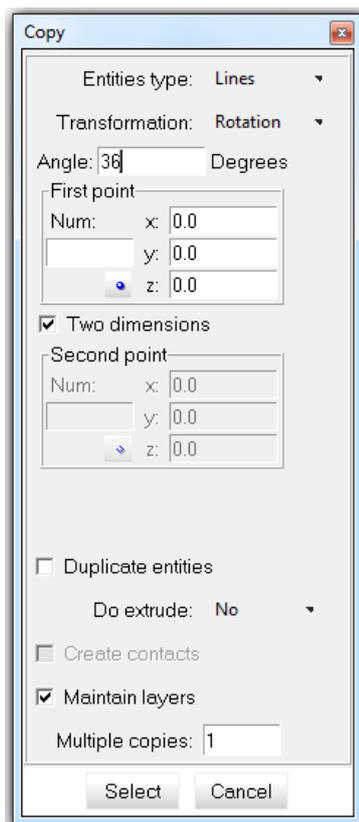

Figure 9. The copy window
- 1 . Use the **Copy** window, located in **Utilities->Copy** (see Figure 9).